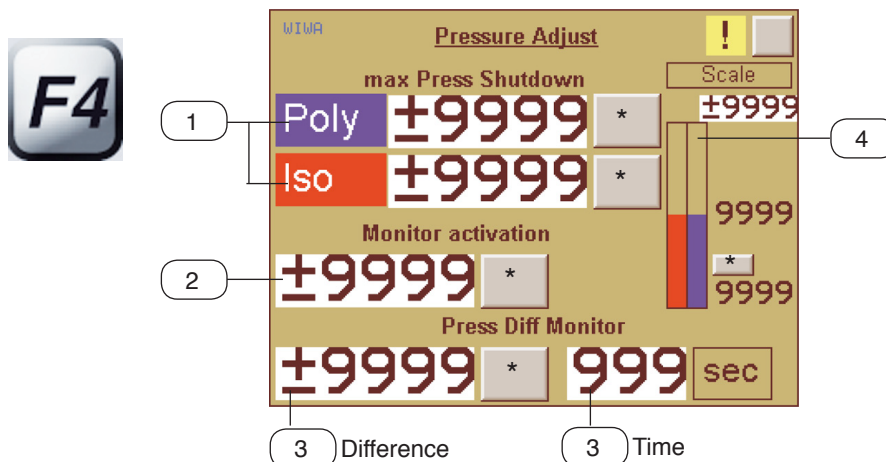

Fig. 4.4
active ON	<ul style="list-style-type: none"> <li>Monitoring activated: by two switching points and the pre-set minimum pressure level being reached for both components, see (Fig. 4.4) pos. 2</li> <li>Display at top right: A</li> <li>Application: System in automatic mode</li> <li>will be switched off if a malfunction occurs</li> </ul>
inactive Off	<ul style="list-style-type: none"> <li>monitoring must be deactivated after 2 switching points and within a period of 30 seconds (setting value, see (Fig. 4.4))</li> <li>Display at top right: H</li> <li>Application: during a short interruption of work with the material flow heaters switched on                             <ul style="list-style-type: none"> <li>The system does not change to malfunction when the differential pressure is exceeded.</li> <li>When resuming work, differential pressure monitoring is automatically reactivated after 2 switching points.</li> </ul> </li> </ul>